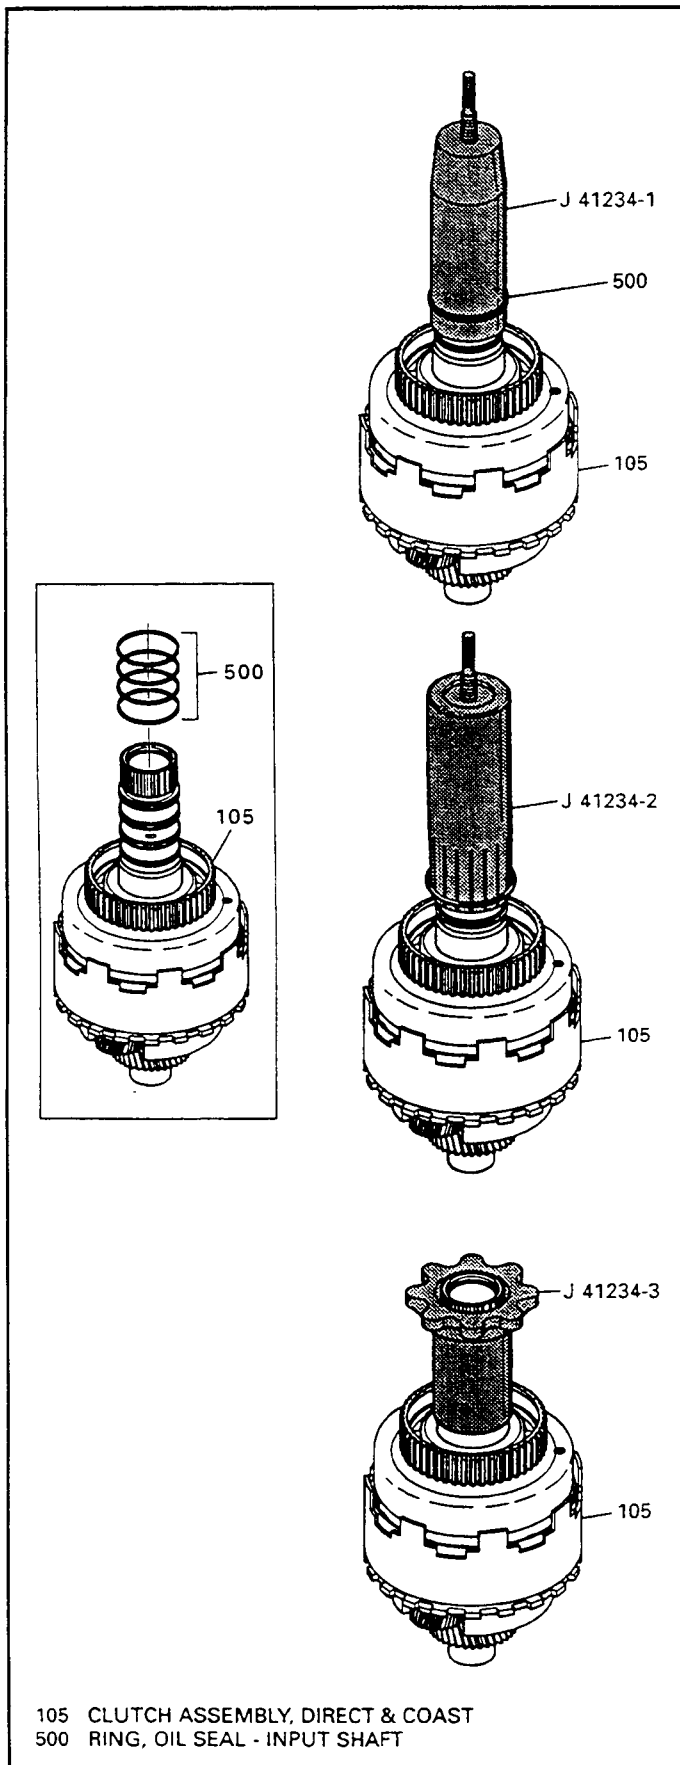

Figure 139
42. Install four new solid "Teflon" seals (500) onto the input shaft using tool J-41234, as shown in Figure 139. Begin with the seal closest to the input housing.
43. Slide tool J-41234-1 over the input shaft and position it at the seal groove closest to the input housing (See Figure 139). Lubricate the tool with small amount of transmission fluid.
44. Guide a new seal onto J-41234-1 and slide it down and into the seal groove with J-41234-2 (See Figure 139).
46. Use tool J-41234-3 to size the seals, as shown in Figure 139.